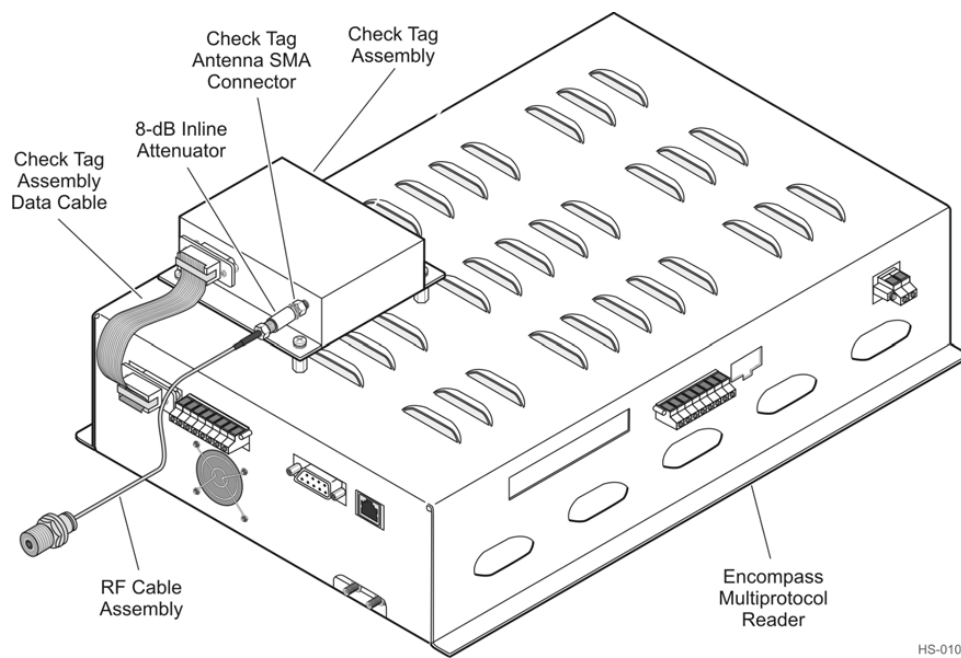

Figure 1 Check Tag Assembly Mounted on Encompass Housing
4. Fasten 8-dB inline attenuator to check tag assembly antenna SMA port (Figure 1) and tighten to 10in/lb.